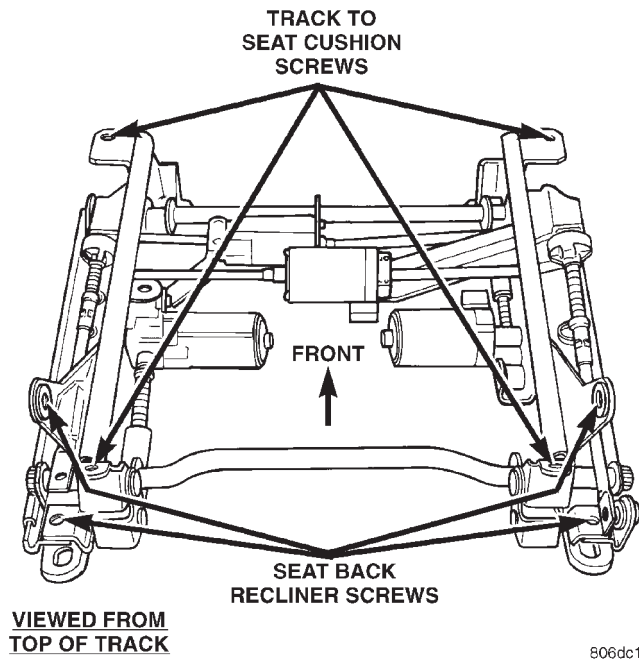

Fig. 4 Seat Track Removal
- (1) Seat removed from vehicle. Using a clean area to place seat.
- (2) Remove two seat back mounting screws and also remove two seat back recliner screws (Fig. 4).
- (3) Remove four seat track mounting screws from cushion pan.
- (4) Remove track from seat.